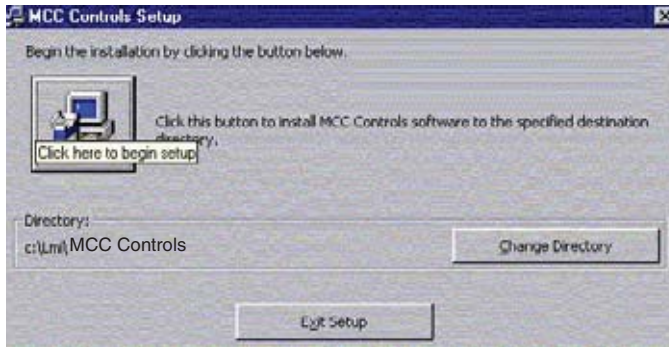

FIGURE 8
11. Click on the **Computer** icon to proceed with the installation of the download program into the **MCC Controls** folder (see Figure 8).